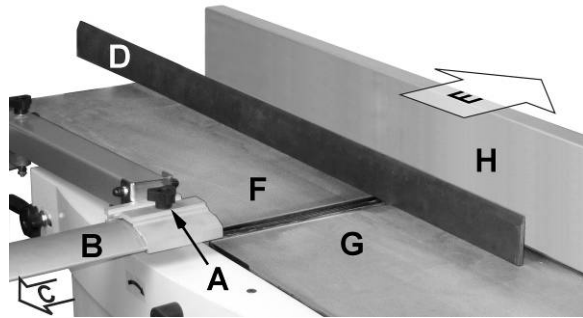

Figure 8
Refer to Figures 8 and 9:
5. Place a *straight edge* (D) across the back of the *outfeed table* (F) and extending over the *infeed table* (G). Note the position of the *infeed table* (G). Note the position of the straight edge in Figure 8 with respect to the *fence* (H).
6. Raise the *infeed table* (G) until it contacts the *straight edge* (D).
2. Remove the *cutterhead guard* (B, Fig. 8).